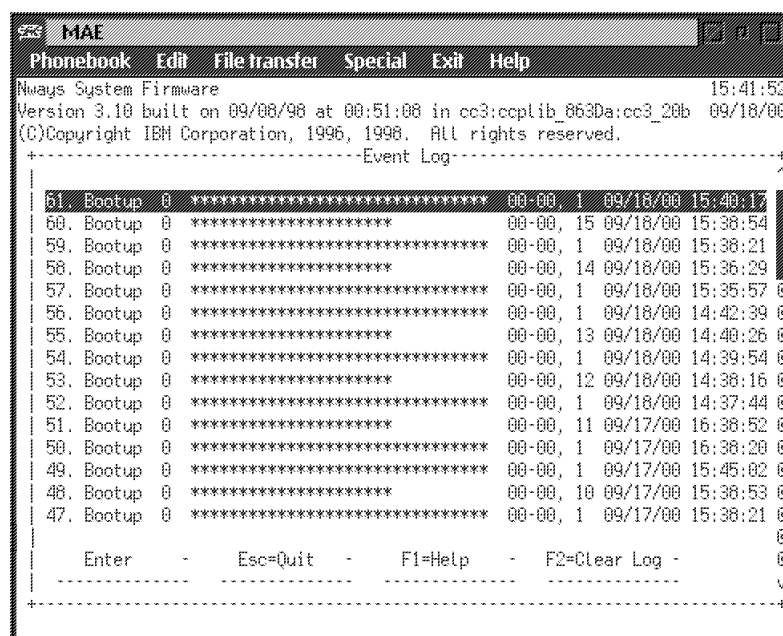

Figure 5-13. Example of Error Log Panel
- 2** The Error Log panel is displayed (Figure 5-13). See Appendix G, “Hardware Error Codes” on page G-1 for an explanation of the data that appears in the Error Codes field.